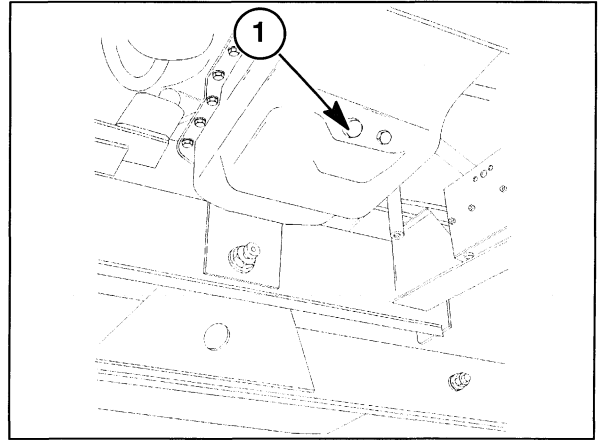
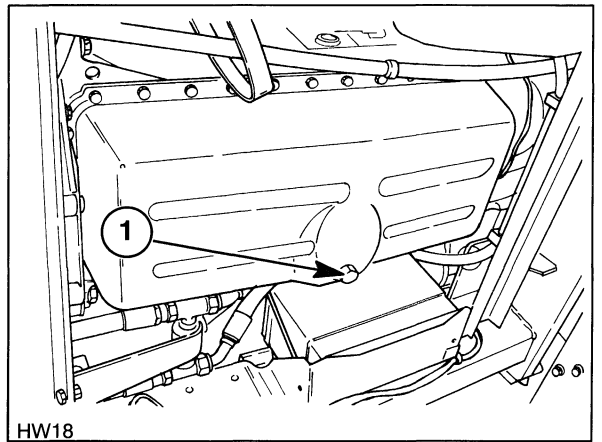

Figure 6-3
Figure 6-4
- Using a suitable container, drain the oil from the engine by removing the plug, 1, Figure 6-3, 4-cylinder engine, Figure 6-4, 6-cylinder engine, from the bottom of the oil pan.